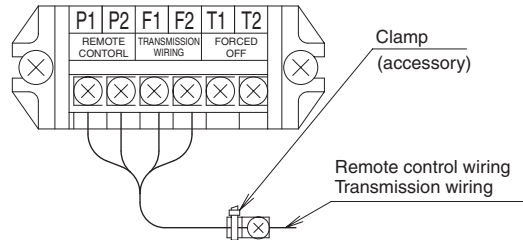

Fig. 18
- Pass the remote control wiring, the transmission wiring, and the computerised control wire into the electric parts box through the through-hole and connect to the terminals on the X3M terminal block. After connection, secure with the included cramping material. **(Refer to Fig. 18)**